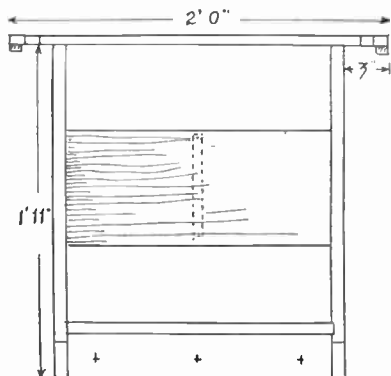

Fig. 1
A front view is given in Fig. 1, and a side view and section, in Fig. 2, with useful dimensions. Cut the two side parts to length, and where the bottom shelf will come, saw and chisel out a groove across each, $\frac{1}{8}$ in. deep. Where the trough bottom will be fitted, square guide lines across in pencil. Cut the top of the fitment to dimensions given. This extends beyond the sides, and is slotted to hold the long brooms. The sides are to be housed in the top, so cut suitable grooves, $\frac{1}{8}$ in. deep at 3 ins. from each
end, as shown in detail (A) Fig. 3. In the middle of these side extensions, bore a hole through, 1 in. diameter, and from the front edge cut up to the holes to form a slot each side, as at (B) for the handle of the broom to slip in. As the extreme ends of the top will be weakened by these slots, to prevent a breakage, screw and glue 1 in. wide strips of wood to the ends underneath. These are clearly shown in the front view at Fig. 1.